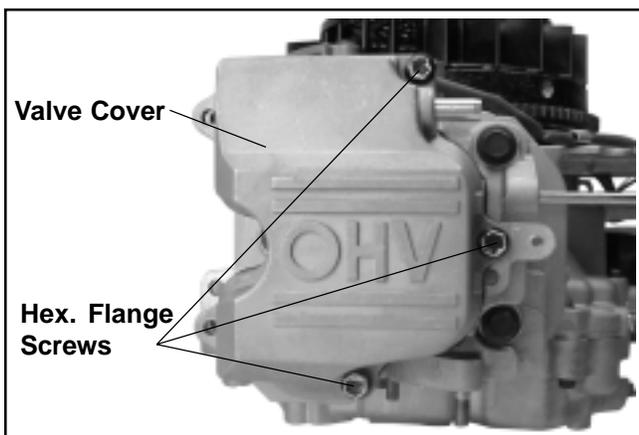

**Figure 9-22. Removing Fuel Line (not on all models).**
1. Remove the hex. flange screw, clip, fuel line and rubber grommet. See Figure 9-22.